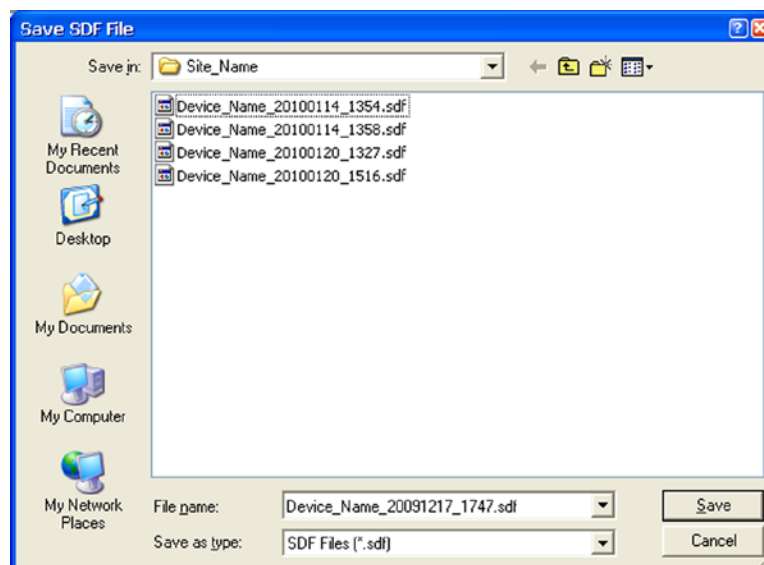

Figure 14.24
3. The Save SDF File dialog will appear (Figure 14.24). To change the file path and/or file name from the defaults listed below, browse to the desired file path and/or type the desired entry in the field provided. See Log Directory and Filenames, page A-22 for more information.